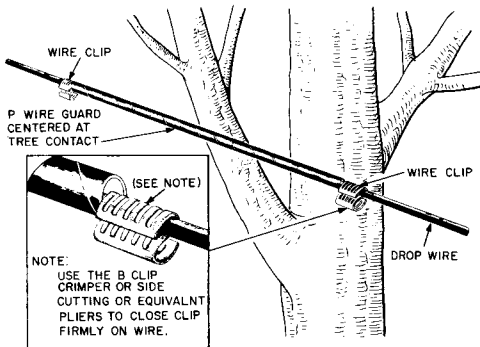

Fig. 4—Protection For Wire At Tree Contact Larger Than 1 1/2 Inch Diameter
4.07 Methods of protecting drop wire against abrasion are illustrated in Fig. 4 through 8.